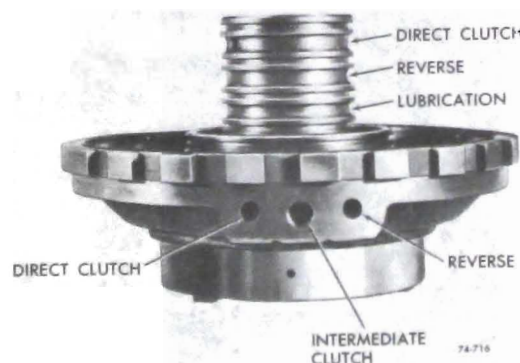

Figure 76-714
3. Air check the oil passages to be sure they are open and not interconnected. See Figure 76-714. Be sure constant bleed plug orifice is open.